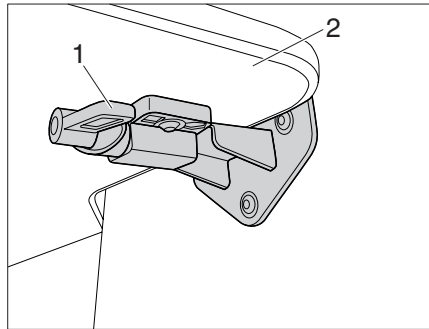

Fig. 21 Bed extension latch (special equipment)
- ▶ Rotate the latch (Fig. 21,1) on the left and right of the bed extension (Fig. 21,2) through 180°.